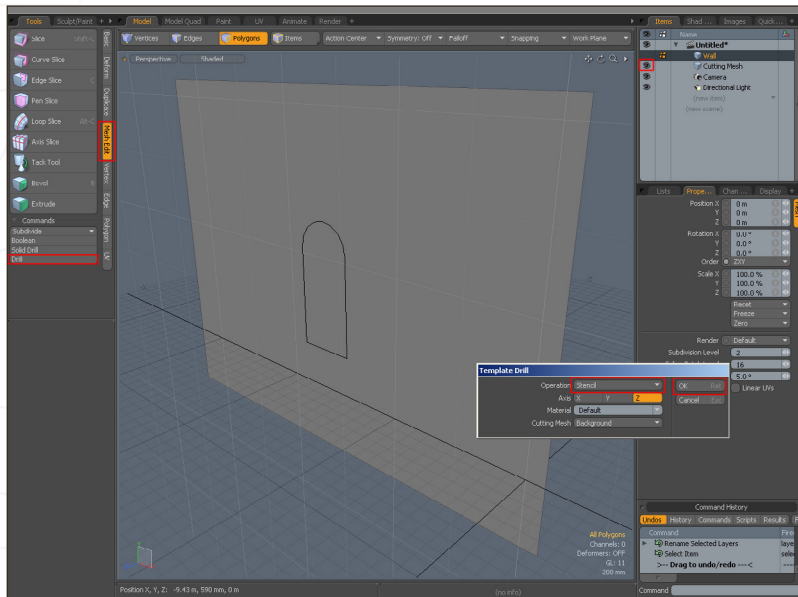
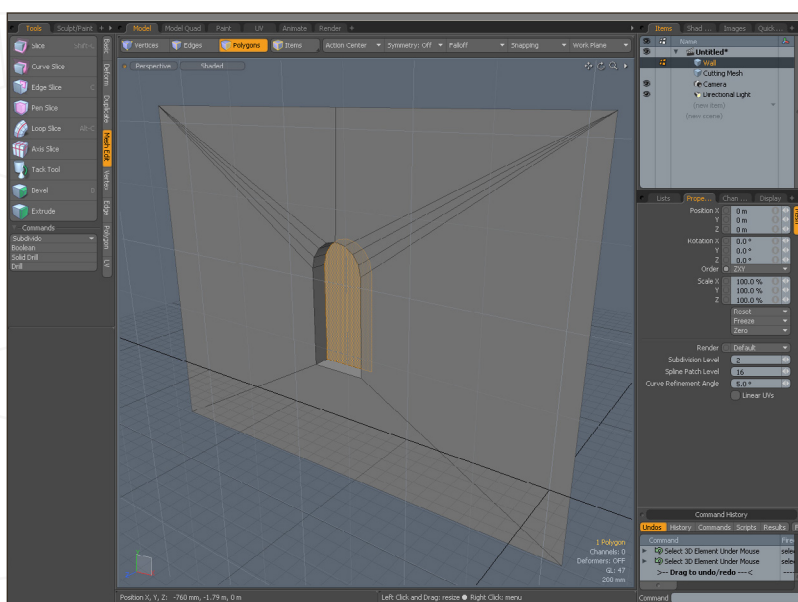

Fig 05
Fig 06
The windows can be created using the Drill tool. In short, this tool allows you to stencil the shape of a mesh onto another. So let's create a simple plane using the box-primitive tool. Then create another plane in the shape we want the window to be and place the window plane as a background layer, in front of the wall plane. Use the Drill tool to imprint the window on the wall (**Fig.05**). Extrude the stencilled polygon inward to give some thickness to the wall. Also, make sure you clean up the geometry with Edge Slice (C), making it preferably all quads and triangles (**Fig.06**). Edge Slice allows you to draw an edge between two specified points.